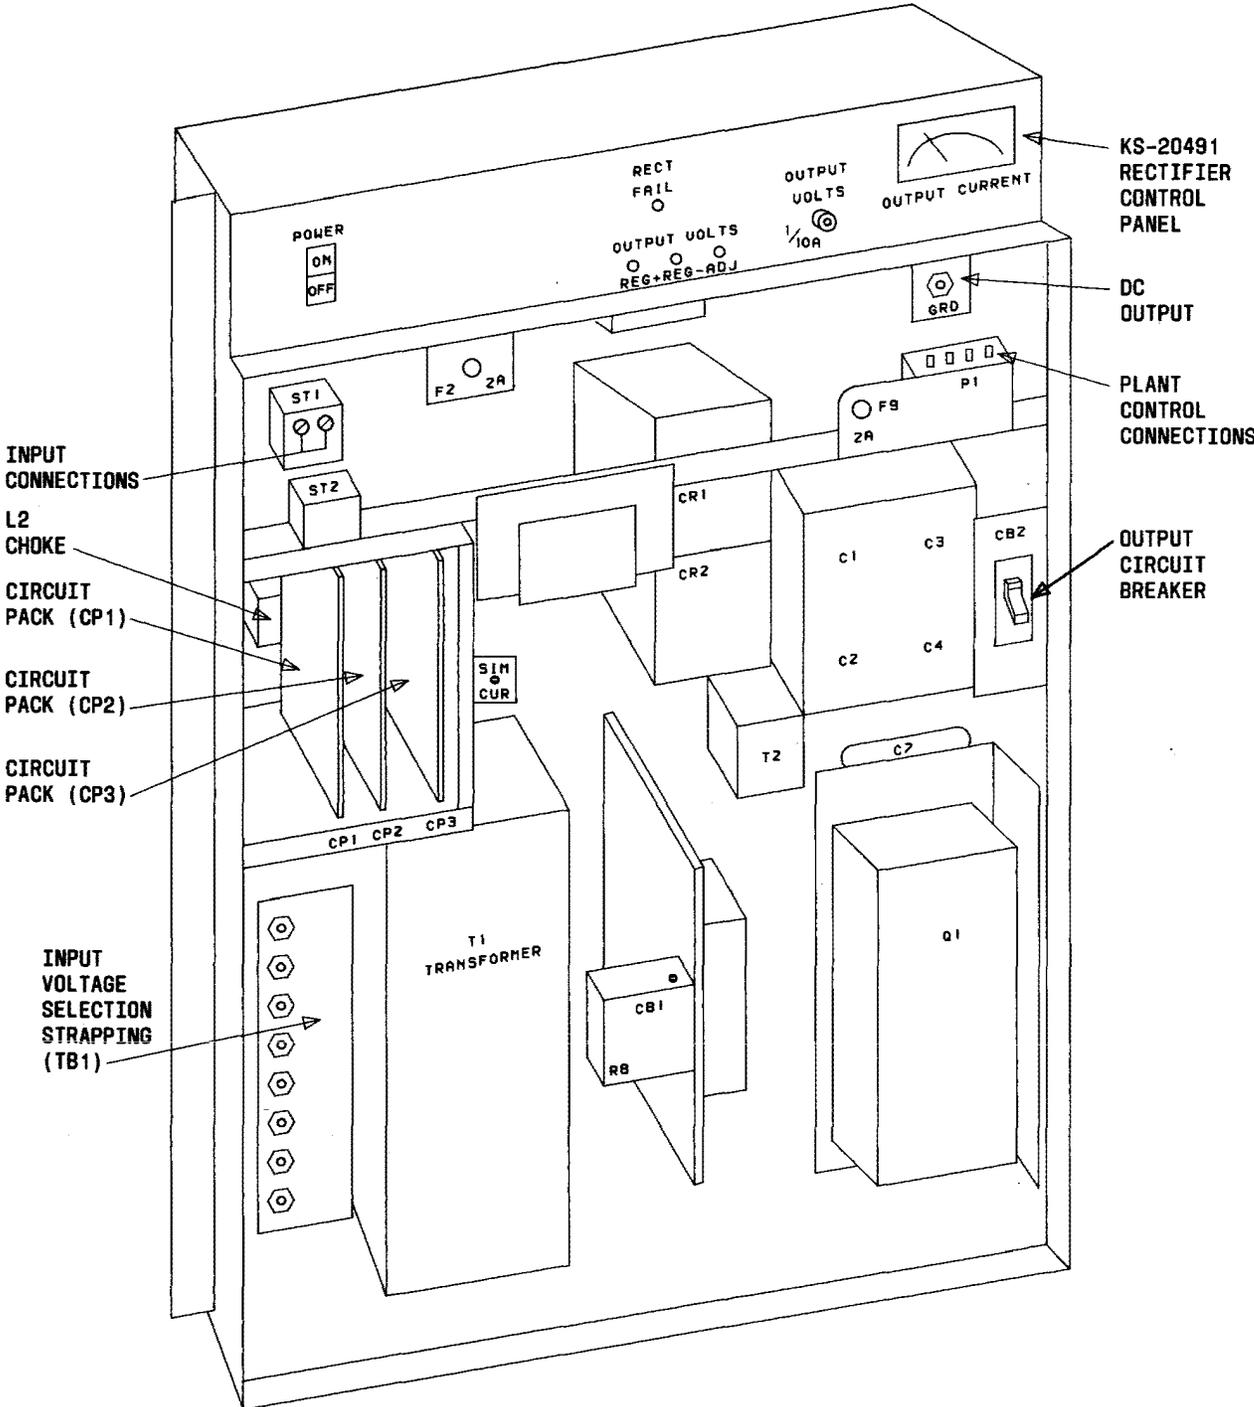

Fig. 9—KS-20491, L21, L22, L23, or L24 (ITT-North) Rectifier—Front Panel Removed
**3.10** The regulator and control circuit of the KS-20491 rectifier manufactured by ITT-North (Fig. 9) consist of the following printed wiring circuit packs: